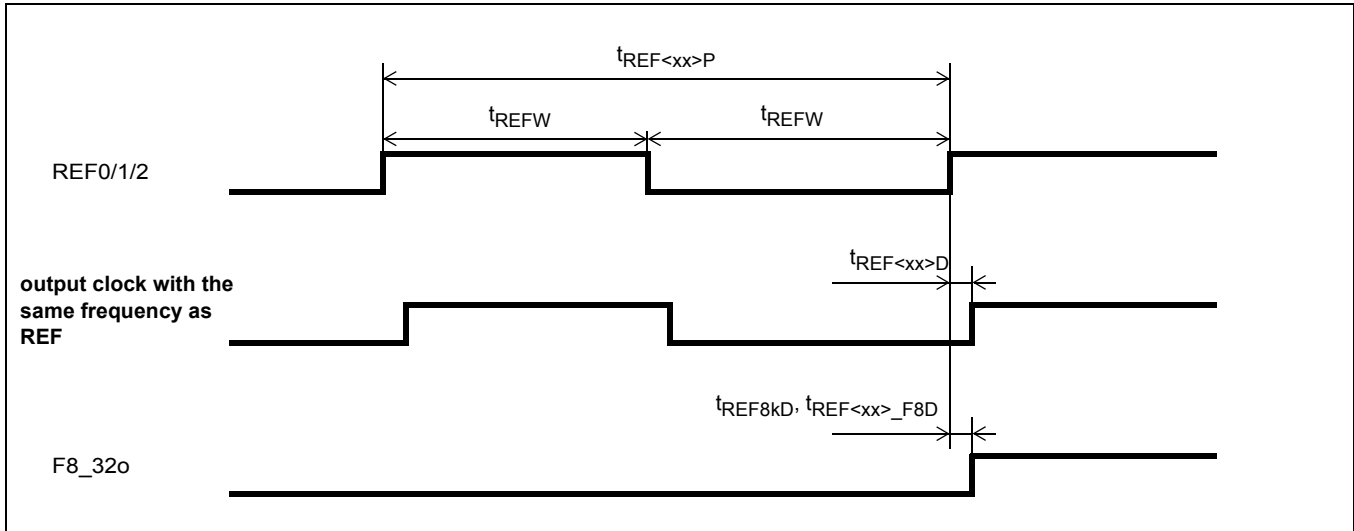

Figure 24 - REF0/1/2 Input Timing and Input to Output Timing
**AC Electrical Characteristics\* - Input timing for REF0, REF1 and REF2 references (see Figure 24).**
**AC Electrical Characteristics\* - Input to output timing for REF0, REF1 and REF2 references when TIE\_CLR = 0 (see Figure 24).**